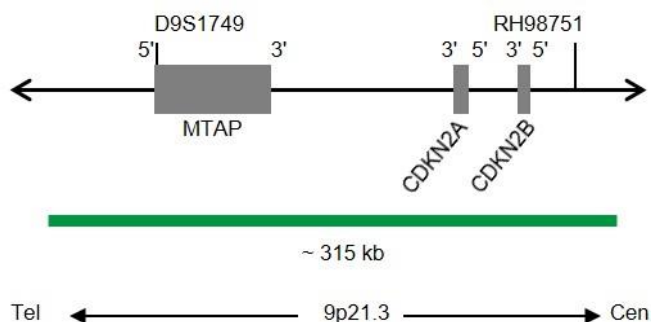

Fig. 1: SPEC CDKN2A Probe map (not to scale)
- ZyGreen (excitation 503 nm/emission 528 nm) labeled polynucleotides (~10 ng/ μ l), which target sequences mapping in 9p21.3* (chr9:21,742,629-22,056,853) harboring the CDKN2A gene region (see Fig. 1).